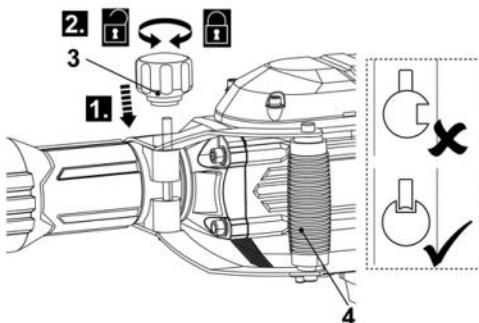

Fig. 3
- > Align and screw the handle knob (3) onto the bolt.
- > Adjust the auxiliary handle (4) to the desired working position so that you can hold the product safely during operation.
- > Tighten the handle knob (3) to secure the auxiliary handle (4) in position (Fig. 3).